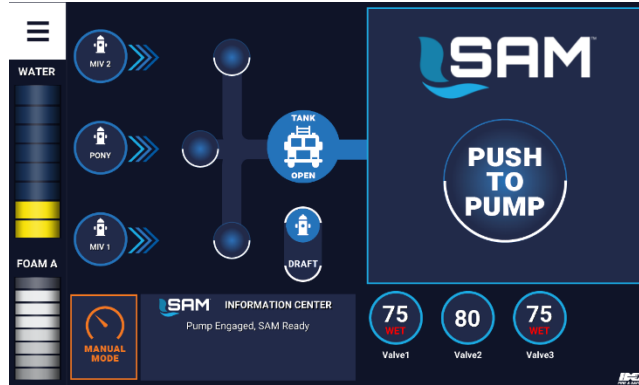

Figure 11. Activating A CAFS Quickset
- B. Touch desired Quickset. (All CAFS available discharges are labeled with one of the following words: DRY, MED, or WET.) See Figure 11.